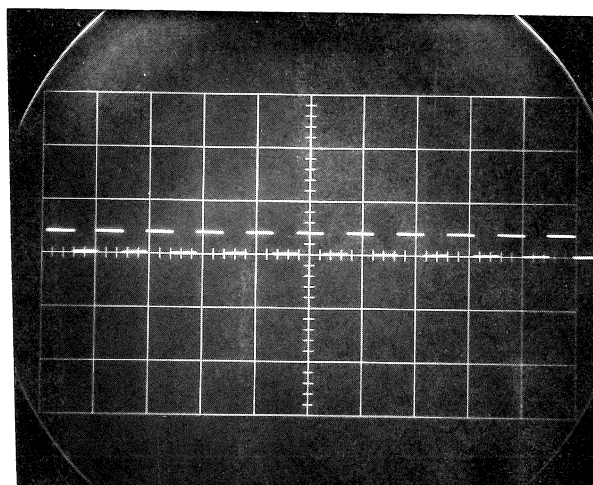

Figure 37
4. Adjust B TRIGGER LEVEL CENTERING adjustment (R25) to produce a triggered display while moving the SLOPE switch from + to - (minus). If a triggered display can not be obtained, adjust the TRIGGER SENSITIVITY adjustment (R45) cw. (See Figure 37)